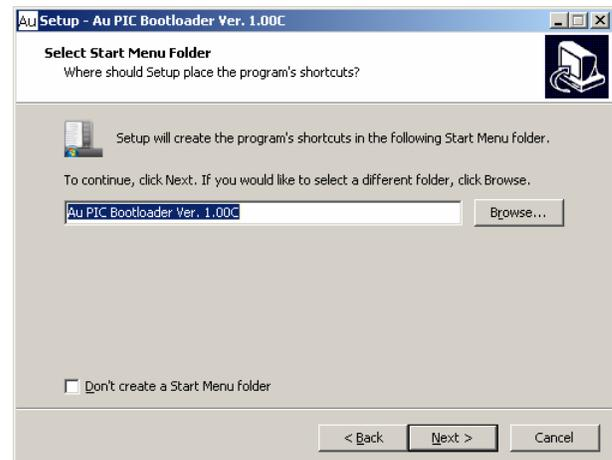

Figure C-5
5. “Select Start Menu Folder” window show up, use default setting “AU PIC Boot-loader”, then click “next” (Figure C-5).